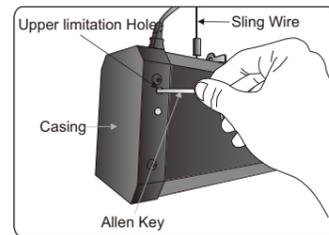

Figure 24
- Upper limitation adjusting. Take off the knob from the hole and use the provided allen key to adjust (figure 24). A clockwise adjustment will retract the screen (The distance between the screen and installation position will decrease) and a counter-clockwise adjustment will extend the screen (The distance between the screen and installation position will increase).